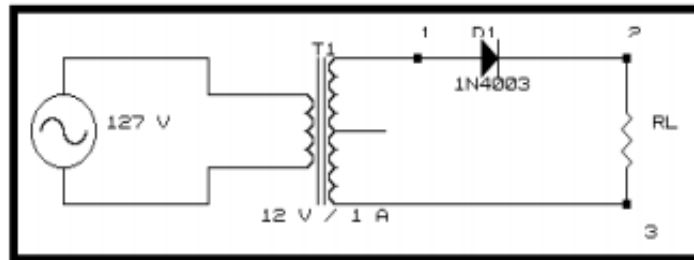
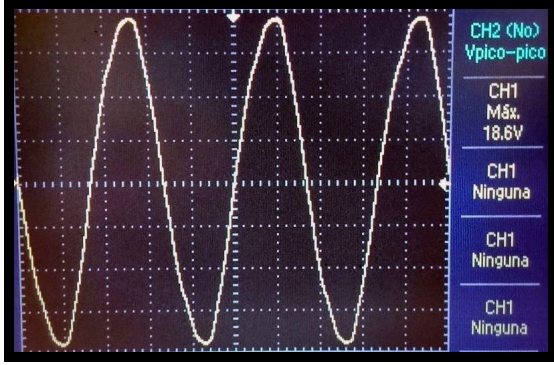
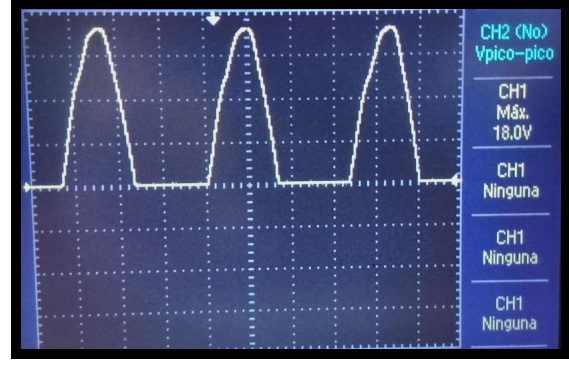

Figure 3.2.0: Half-wave rectifier circuit.
Figure 3.2.1: Transformer output signal.
Figure 3.2.2: Half-wave rectified signal.
Using the 100Ω resistor as  $R_L$  and a 1N4003 diode, the circuit of the Figure 3.2.0 was assembled.
For measure the signal before being rectified, we put the positive terminal of the voltmeter in the terminal 1 of the Figure 3.2.0 and the negative terminal of the voltmeter in the terminal 3 of the Figure 3.2.0. We will call this voltage  $V_T$  (Transformer Voltage).
In the same terminals ( 1 and 3 ), of the Figure 3.2.0, the terminals of the oscilloscope were connected same as the voltmeter. Now, as can we see in Figure 3.2.1, the signal isn't being rectified yet. To visualize the rectified signal, the terminals of the oscilloscope were connected to the terminals 2 and 3 of the Figure 3.2.0. Now, as we can see in Figure 3.2.2 the signal is rectified from A.C to D.C. Now there's no negative voltage.
To measure the voltage in  $R_L$ , its necessary to connect the positive terminal of the voltmeter in the terminal 2 of the Figure 3.2.0 and the negative terminal of the voltmeter in the terminal 3 of the Figure 3.2.0. We will call this voltage  $V_0$ , also the resistor  $R_L$  will have a current, we will call it  $I_0$  and with Ohm's Law we can find it.
- For  $V_p$  ( Peak Voltage ) of Figure 3.2.1:
When the terminals of the oscilloscope are connected to the circuit and the signal it's displayed on screen as Figures 3.2.1 shows. We will put the oscilloscope in the option **measures** and search for the option **Max Voltage**.
- Finally,  $V_p - V_D$ , where  $V_p$  it's the peak voltage in Figure 3.2.1 and  $V_D$  it's the diode Voltage:
Using basically the same circuit of the Figure 3.2.0, we are going to connect in parallel to the  $R_L$  **resistor** a **electrolytic capacitor**, this device will act like a filter. The voltage coming out from rectifiers is not smooth and a filter rectifier circuit is used to smoothen it for more stable constant DC voltage. We are going to be exchanging between two different capacitors, one of  $470\mu F$  and another of  $2200\mu F$ .
- *Finally,  $V_p - V_D$ , where  $V_p$  it's the peak voltage in Figure 3.2.1 and  $V_D$  it's the diode Voltage:*